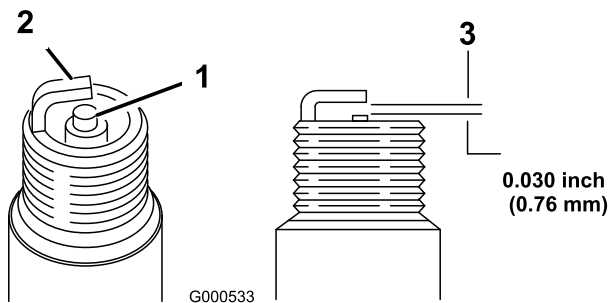

Figure 29
- Look at the center of the spark plug(s) (Figure 29). If you see light brown or gray on the insulator, the engine is operating properly. A black coating on the insulator usually means the air cleaner is dirty.
- Check the gap between the center and side electrodes (Figure 29). Bend the side electrode (Figure 29) if the gap is not correct.